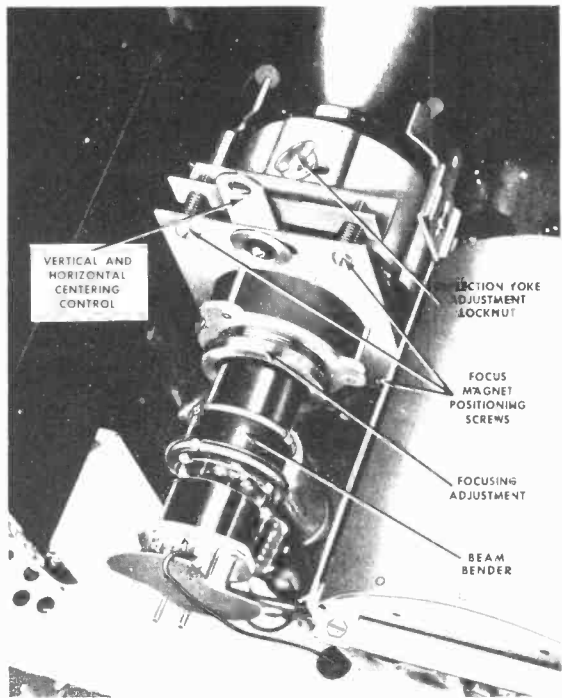

Fig. 29 Mechanical Focus and Centering Adjustments.
The beam bender has an identifying arrow stamped on it. When it is installed, the arrow must point towards the face of the picture tube. On a double ring type beam bender the air gaps should be 180° out and the heavier ring must be nearest the picture tube socket. (See fig. 29). To make the adjustment, move and rotate the beam bender along the neck of the tube until the brightest picture with least shadow appears. It may be necessary to readjust the focus and intensity controls during the adjustment.
1. Adjust the magnet positioning screws (See fig.29) until the assembly is approximately 1/8 inch from the deflection yoke with the neck of the picture tube centered inside the focus shunt ring.